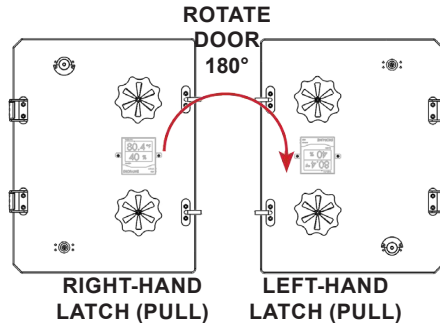

FIGURE 3.15 - Rotate Door
**STEP 1:** Rotate the door 180° about the face so that the hinge bushings are located on the right hand side of the door. See FIGURE 3.15 & 3.16